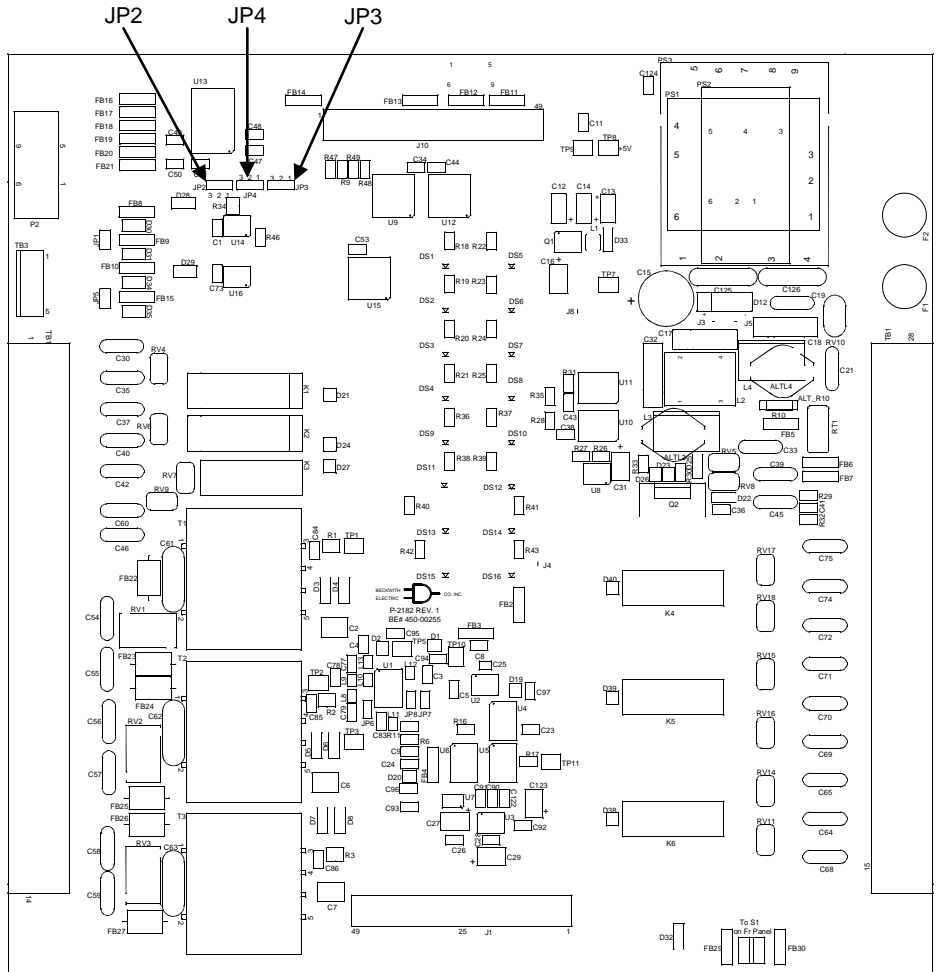
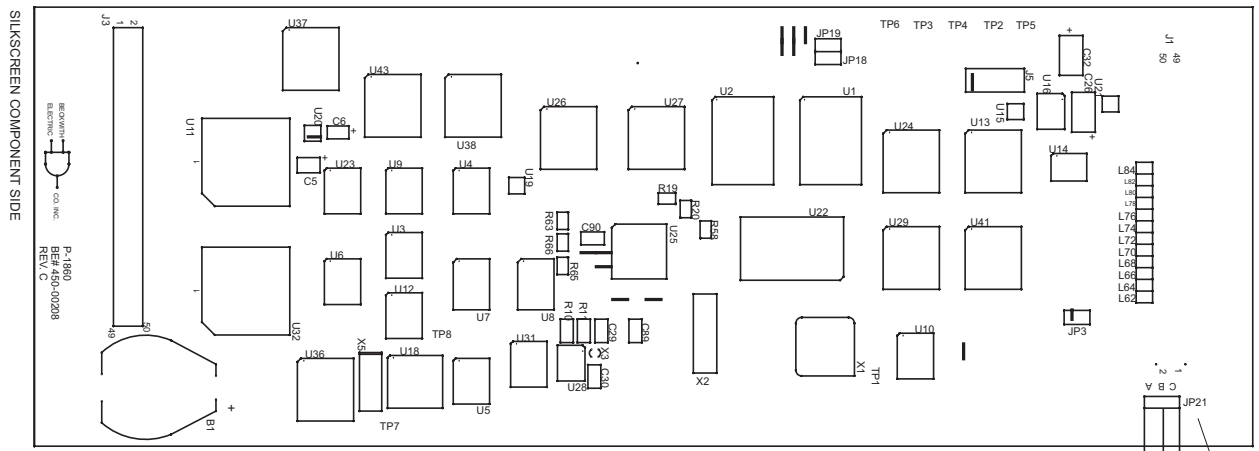
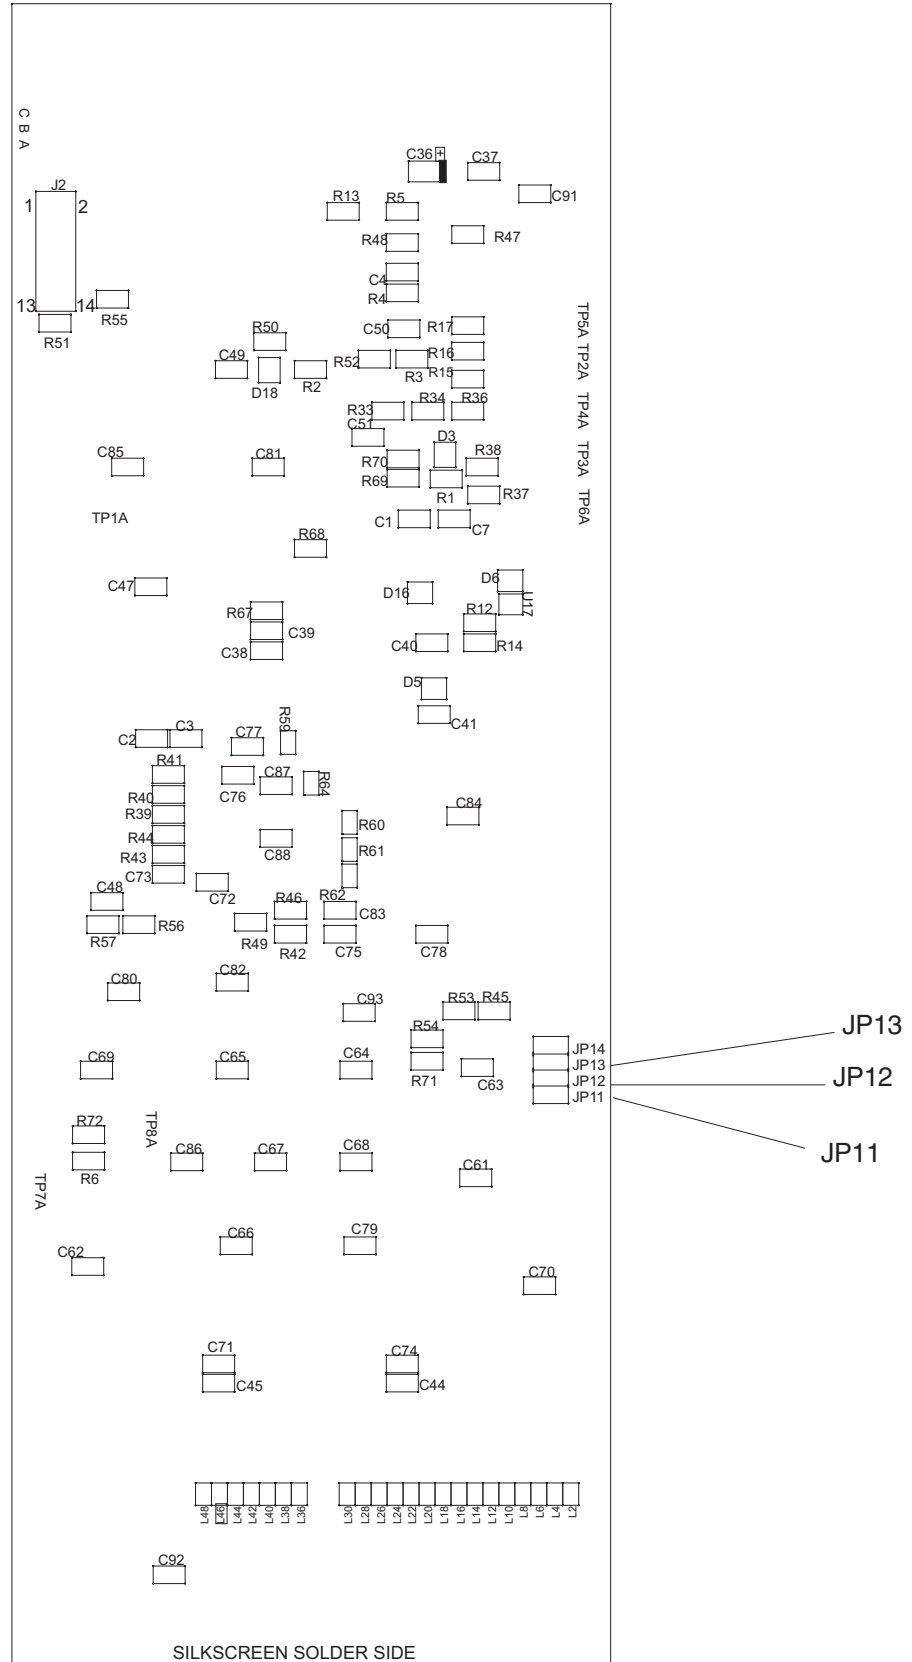

Figure 2-12 M-3401 I/O Board
Figure 2-13 M-3401 Top-View CPU Board
Figure 2-14 M-3401 Bottom-View CPU Board
See Figure 2-12, M-3401 I/O Board, Figure 2-13, M-3401 Top-View CPU Board or M-3401 Bottom-View CPU Board. Figure 2-14, for Jumper locations.
5. JP2, JP3, and JP4 are now accessible. See Figure 2-12, M-3401 I/O board for locations.
6. JP21 is now accessible. See Figure 2-13, M-3401 CPU Board.
4. Connect a jumper across JP11 (Figure 2-14).
4. Connect a jumper across JP13 (Figure 2-14).